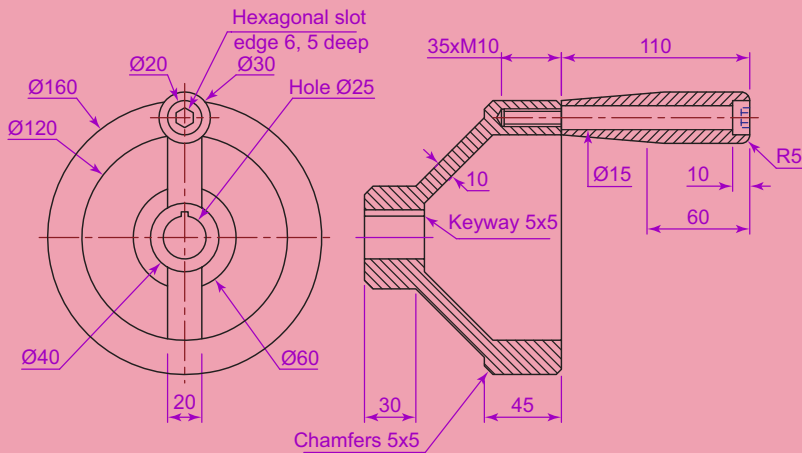

Fig. 19.26 Exercise 6 – details drawing
6. Working to the details shown in Fig. 19.26 construct a 3D model of the parts of the wheel with its handle.